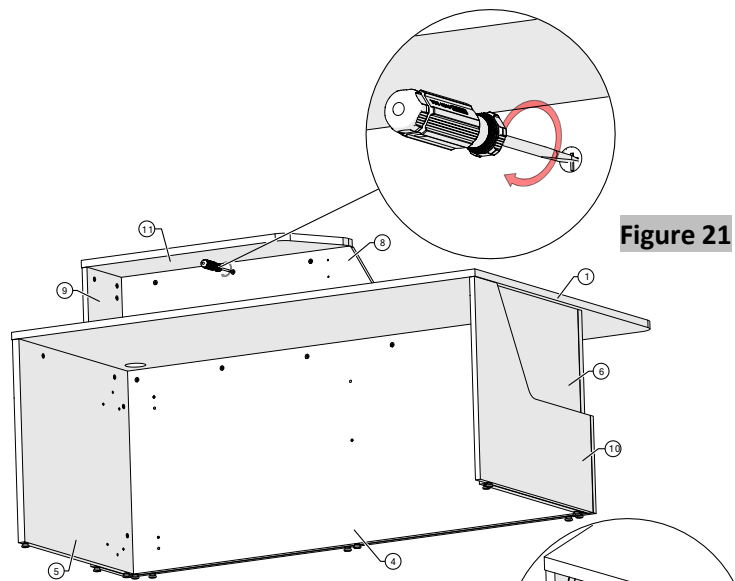

Figure 21
24. Turn the Cams using a screwdriver in a clockwise direction to lock the countertop, angled reception countertop gable, and angled reception countertop modesty together (Figure 21).